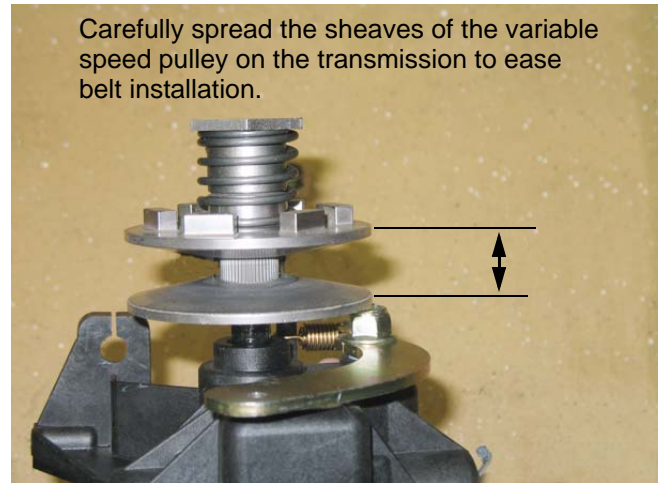

Figure 4.11
- 10b. It will help to spread the sheaves on the transmission pulley, and tug the belt deep into the sheaves of the transmission pulley. This will leave the maximum amount of slack in the belt, so it is easier to slip around the crankshaft pulley. See Figure 4.11.